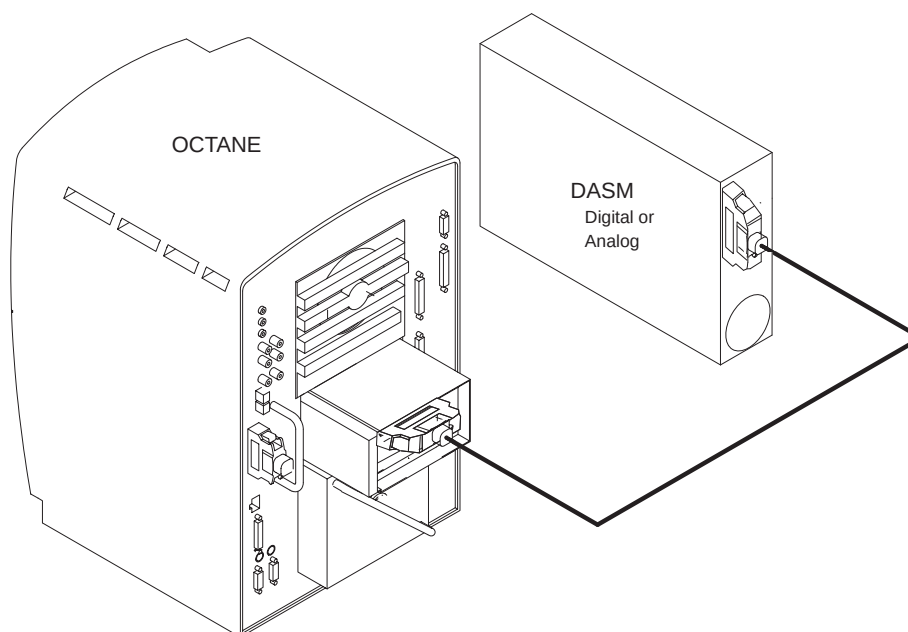

Figure 1-9 SCSI Cable Configuration with DASM
- 7.) Refer to Figure 1-9. Install SCSI 2 to SCIS 1 Adapter (2209910) to the back of the DASM.